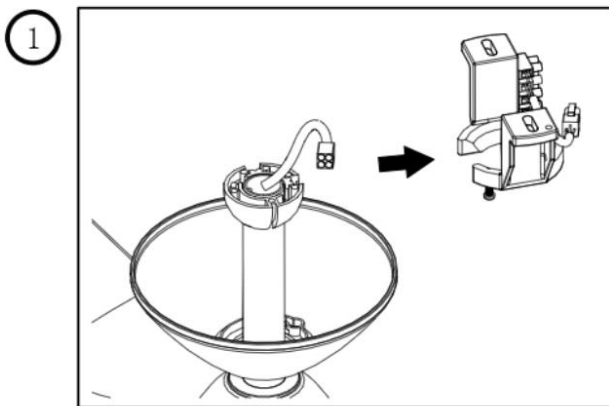

Fig. 5.1
1. Place the hanger onto the mounting bracket. Ensure the key slot of the hanger ball is positioned on the key pin of the mounting bracket to prevent the fan from rotating when in operation; (Fig.5.1)